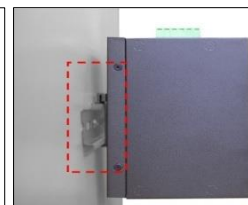

Figure 5
- Lightly pull down the bracket on to the rail as shown below in *Figure 5*.